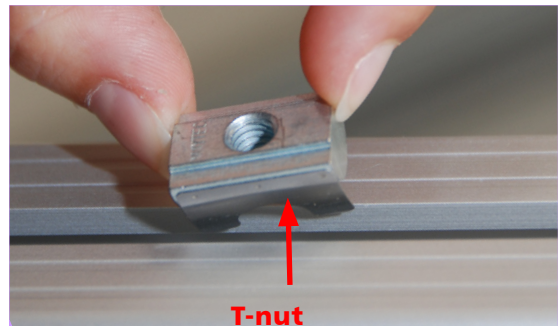

Abb. 3.2-7
**Step ⑥** In order to attach the profile angles **A2e**, you will need sixteen (16) fillister head screws with flange **M6x14** (2 per angle) and sixteen (16) T-nuts **M6**. Measure the long frame profile **A2c** which you have just mounted to the shield. There are 930 mm | 36.61 inch from to inner edge of the side supports to the middle of the screws the profile angles will be screwed on with. Now place two (2) T-nuts in the lateral lead channel of the long frame profile (the shield just clicked into the lead channel at the other side of the frame profile). Insert the T-nuts by half-twisting them into the lead channels with the spring ahead and align them appropriately (**fig. 3.2-7**).